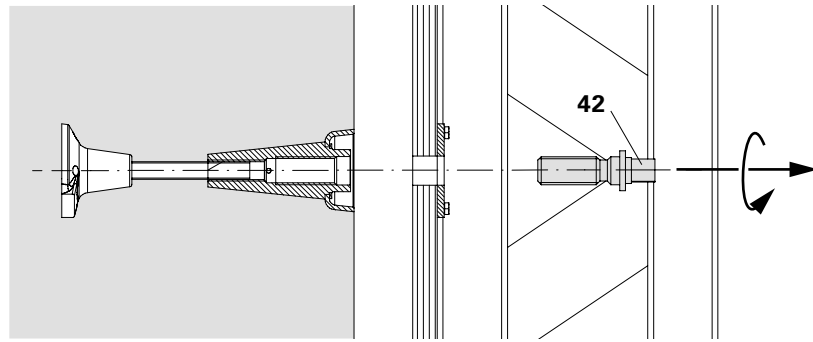

Fig. B1.14
- Loosen and remove all Advancing Bolts M24 (42) from the rear side of the formlining. (Fig. B1.14)